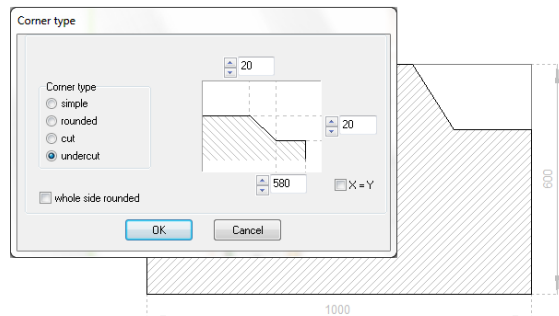

Fig. 214 – undercut corner
- enter the undercut parameters in the appropriate edit box (if the undercut values are to be identical, select **x=y**) (Fig. 214);